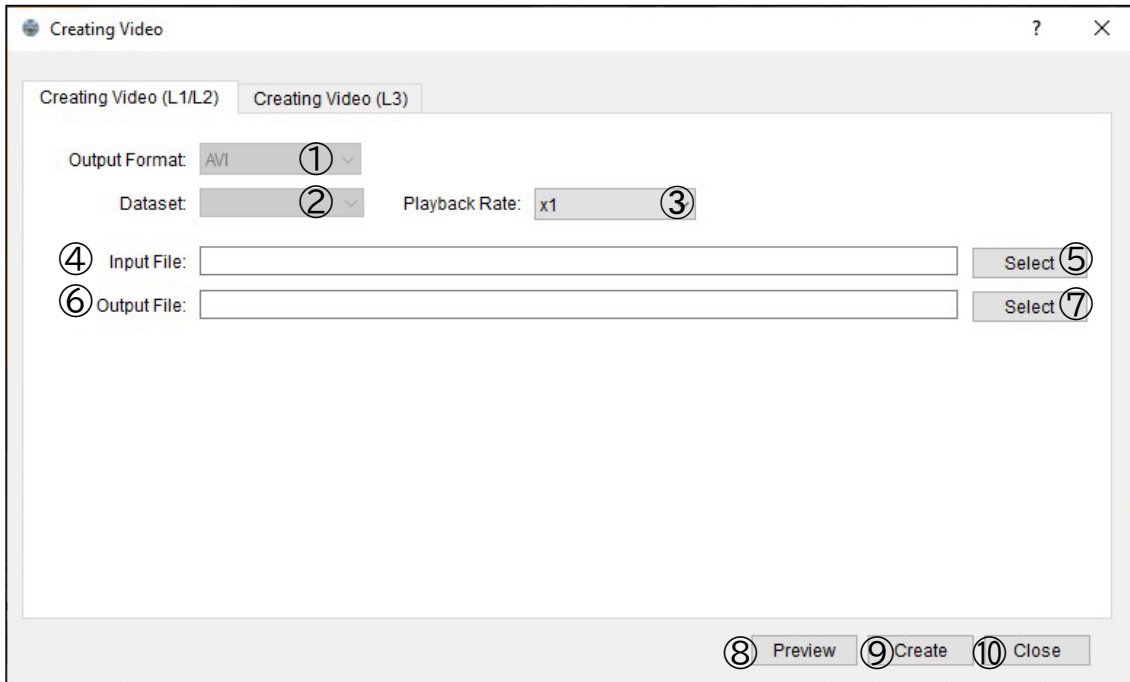

Figure 11-8 Video Creation Screen (L1/L2)
Table 11-2 provides explanations and actions for items ① to ⑩ described in Figure 11-8.